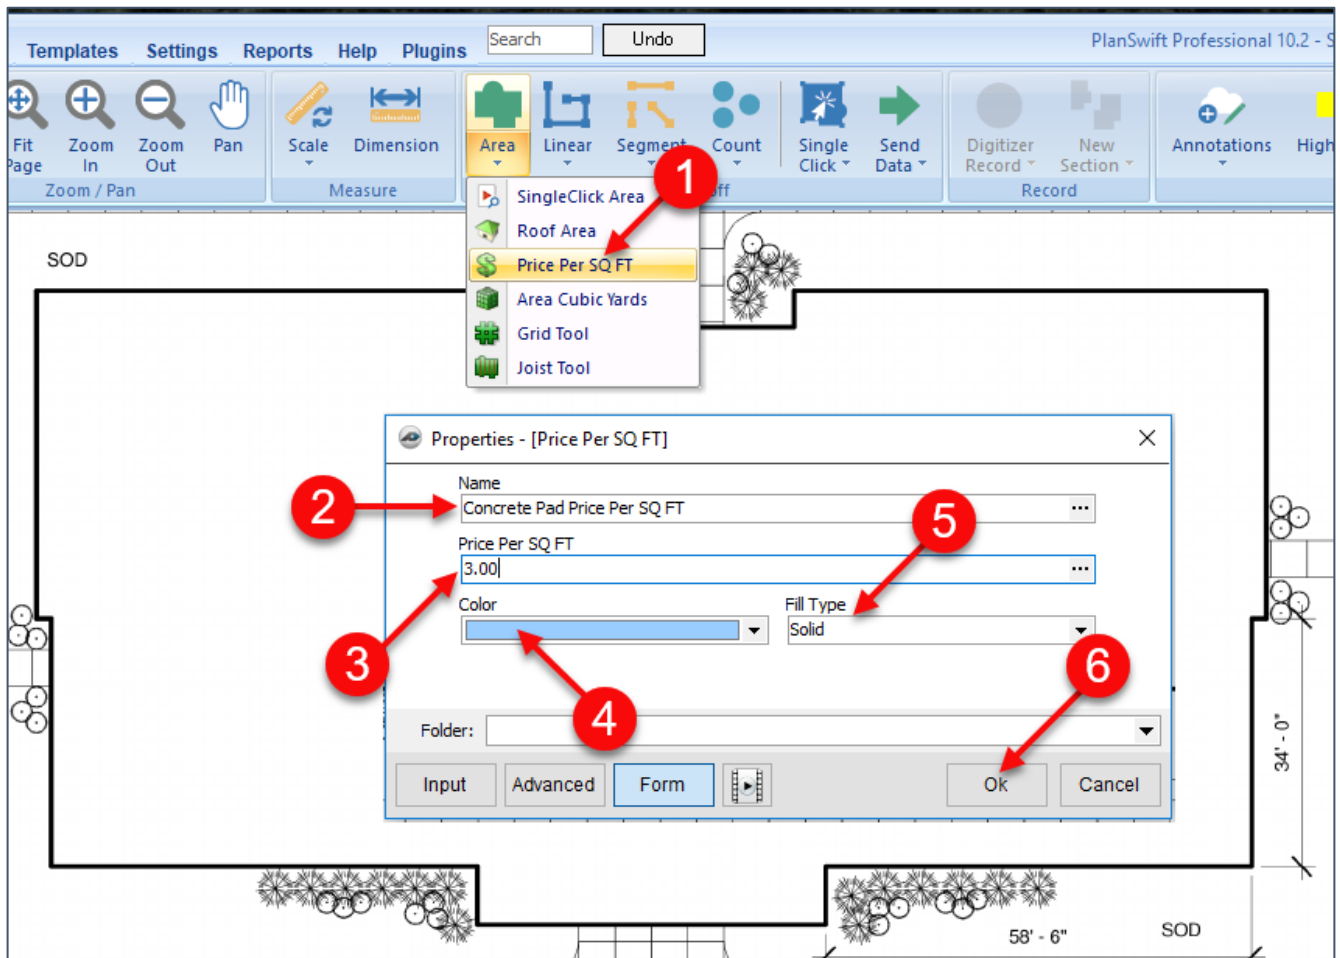

Figure 33-A
7. The **Digitizer Record** is now turned on. Perform the takeoff by clicking on all corners (inside and outside) of the concrete pad (Fig. 33-B).